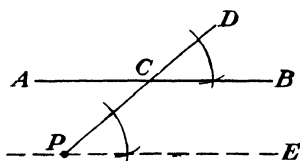

Fig. 130.
a. Draw any line PD through P cutting line AB at C (see Fig. 130).